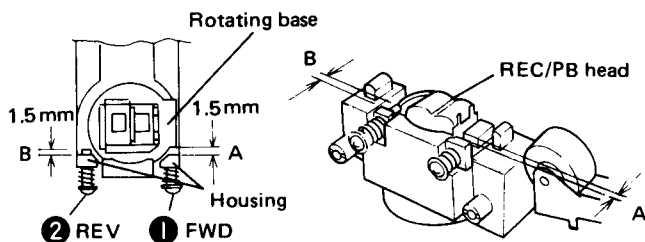

Fig. 4-2 Azimuth adjustment point
2. Adjust the azimuth screw ① using a (-) screwdriver as shown in Fig. 4-2, 3 so that the distance (A) between housing and rotating base is 1.5 mm.
4. Adjust the azimuth screw ② using a (-) screwdriver as shown in Fig. 4-2, 3 so that the distance (B) between housing and rotating base is 1.5 mm.